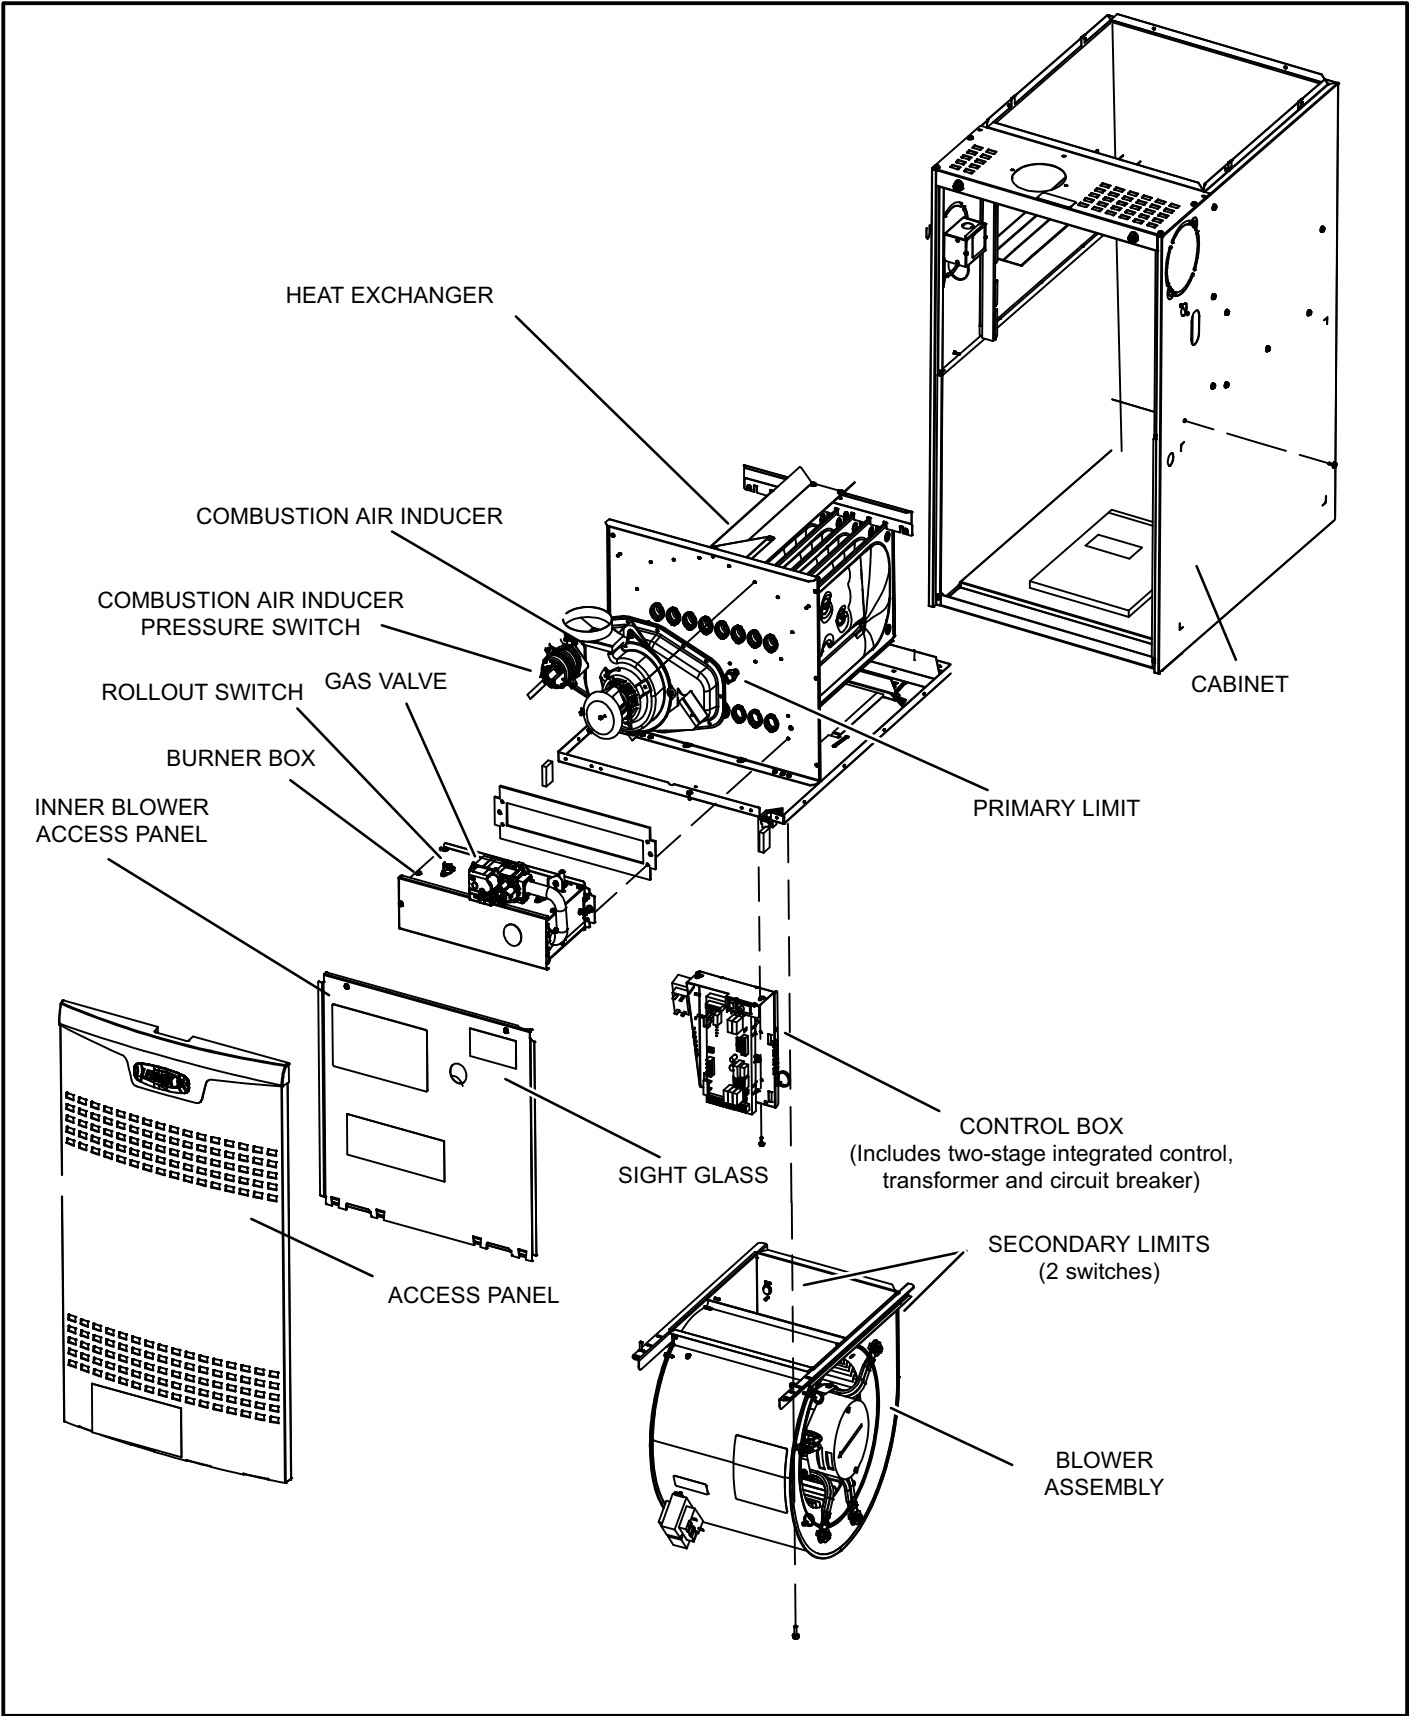
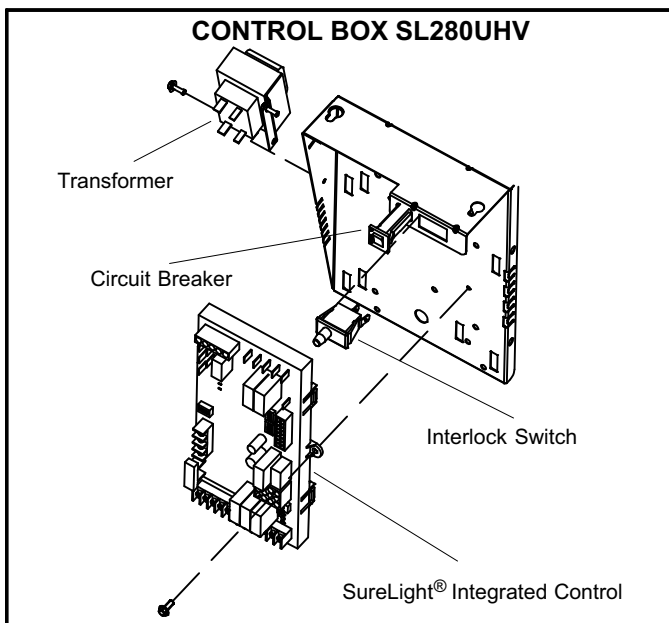

FIGURE 1
FIGURE 2
SL280UHV(X) unit components are shown in figure 1. The gas valve, combustion air inducer and burners can be accessed by removing the access panel. Electrical components are in the control box (figure 2) found in the blower section.